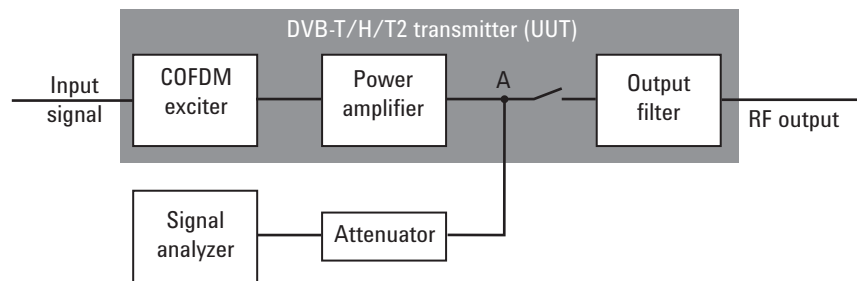

Figure 7. Diagram for spectrum mask measurement on DVB-T/H/T2 transmitter without output filter
Method 1: When the DVB-T/H/T2 transmitter has an output filter, the diagram for spectrum mask measurement is shown in Figure 7.
- B. Measure the signal transmitted at point A as shown in Figure 7.